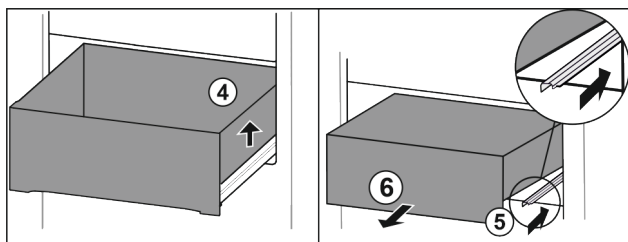

Fig. 89
- Lift drawer on the right. *Fig. 89 (4)*
- Insert right rail. *Fig. 89 (5)*
- Remove drawer to the front. *Fig. 89 (6)*